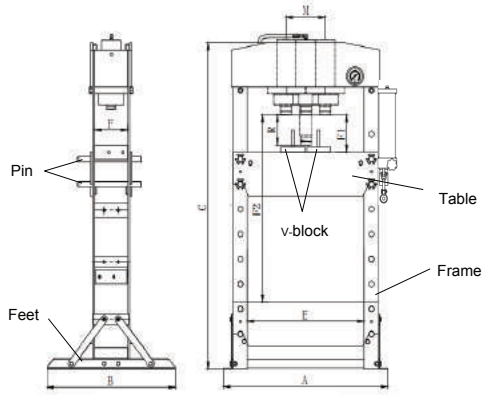

Fig.02
- The feet are fixed to the chassis using the screws provided, and the tables to the two B axes of Fig.02 which have previously been positioned on the outlets of the columns according to the chosen work height Fig.02. Attach the base section and support to left and right connecting plate using bolt ,washer, lock washer and nut.
- During moving the machine, please make sure to use the proper lifting equipment and follow the instructions as shows Fig.02.
**⚠ WARNING** Ensure table at proper position and lock the table by pins firmly. Place the V-block on table, Fig.02, then insert workpiece onto the V-block.